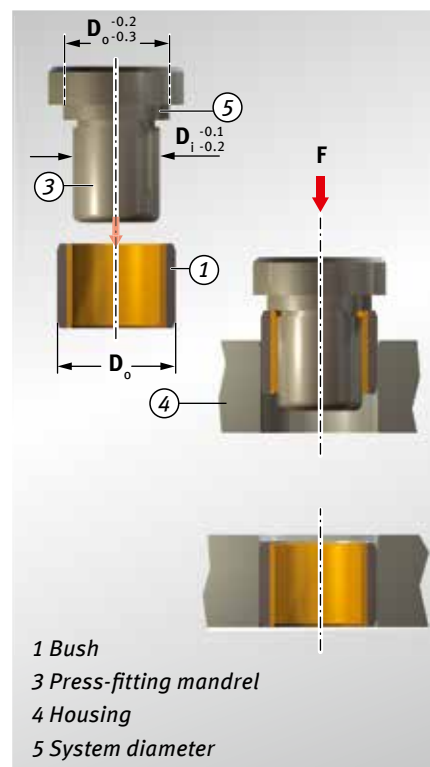

Fig. 51: Recessed press-fitting $D_o \geq 55$ mm
- Recessed press-fitting with mandrel, without auxiliary ring, as per Fig. 51